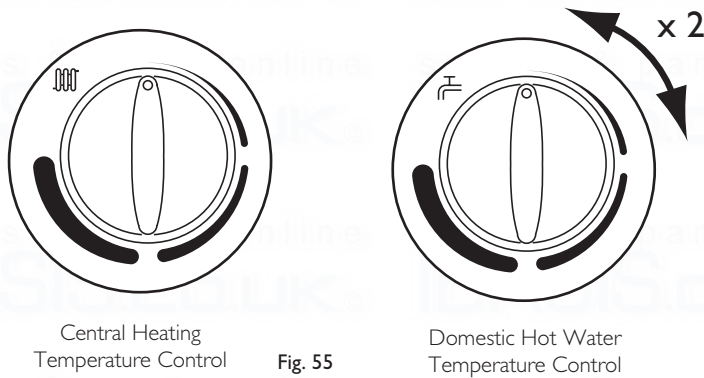

Fig. 55
3. Ensure that the integral timer and any external controls are calling for heat, and the selector switch is in the central heating and hot water position (H). The current boiler temperature is shown on the display.
5. Turn both temperature control knobs fully anticlockwise, then quickly turn the DHW temperature knob 1/4 clockwise twice and back fully anticlockwise (Fig. 55).